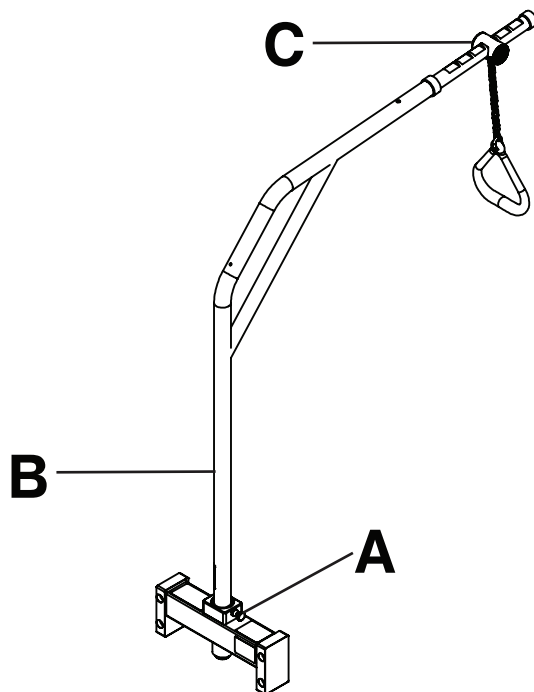

Figure 27 – Adjusting the patient helper
1. Pull the patient helper knob (A) and rotate the lifting pole (B) until the desired position (Figure 27).
2. Release the patient helper knob (A) and rotate the lifting pole (B) until the knob locks in position (Figure 27).
3. Lift the trapeze hanger bracket (C) and move it forward or backward until the desired position (Figure 27).